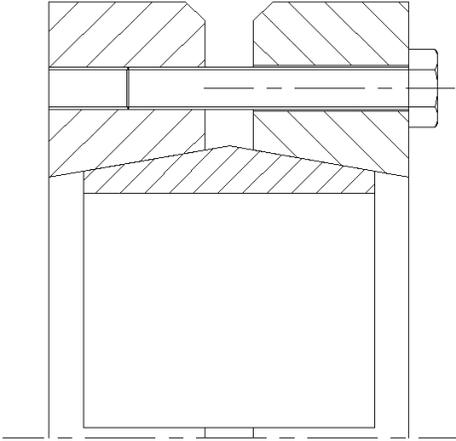

Figure 1
2. Center the coupling over the ends of the two shafts to be joined (Note: any gap between shaft ends should not exceed 5% of largest shaft diameter). Hand-tighten locking screws while checking to ensure that outer thrust collars remain parallel (see Figure 1).